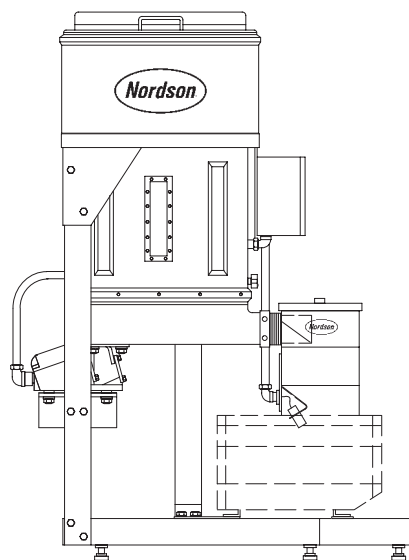

Figure 2-1 Automatic hopper/feeder
8. Position the unit with the hood assembly adapter on the mounting brackets and align with the bolt holes. The unit hose manifold and connections should face away from the hopper/feeder. The back of the hopper/feeder should be under the chute. See Figure 2-1.